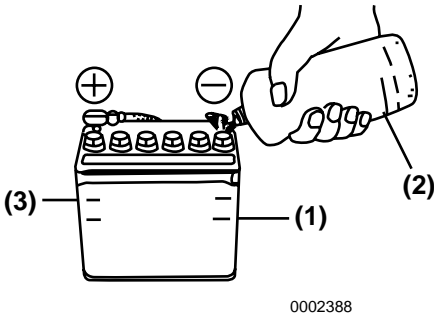

Figure 14
- If the level is lower than the minimum fill level (**Figure 14, (1)**), fill with distilled water (**Figure 14, (2)**) (available in the grocery store) up to the upper limit (**Figure 14, (3)**) of the battery.